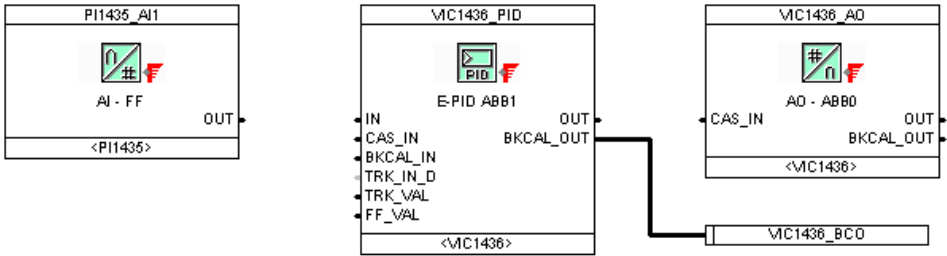

Figure 174. FF Signals
- b. An empty signal box is displayed where the signal can be entered directly (refer to Figure 174).